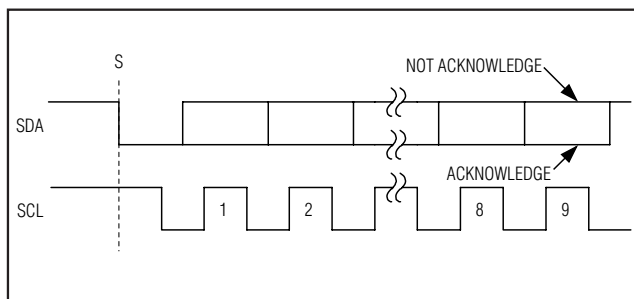

Figure 6. Acknowledge Bits
Data transfers are acknowledged with an acknowledge bit (A) or a not-acknowledge bit ( $\overline{\text{A}}$ ). Both the master and the MAX11646/MAX11647 (slave) generate acknowledge bits. To generate an acknowledge, the receiving device must pull SDA low before the rising edge of the acknowledge-related clock pulse (ninth pulse) and keep it low during the high period of the clock pulse (Figure 6). To generate a not-acknowledge, the receiver allows SDA to be pulled high before the rising edge of the acknowledge-related clock pulse and leaves SDA high during the high period of the clock pulse. Monitoring the acknowledge bits allows for detection of unsuccessful data transfers. An unsuccessful data transfer happens if a receiving device is busy or if a system fault has occurred. In the event of an unsuccessful data transfer, the bus master should reattempt communication at a later time.